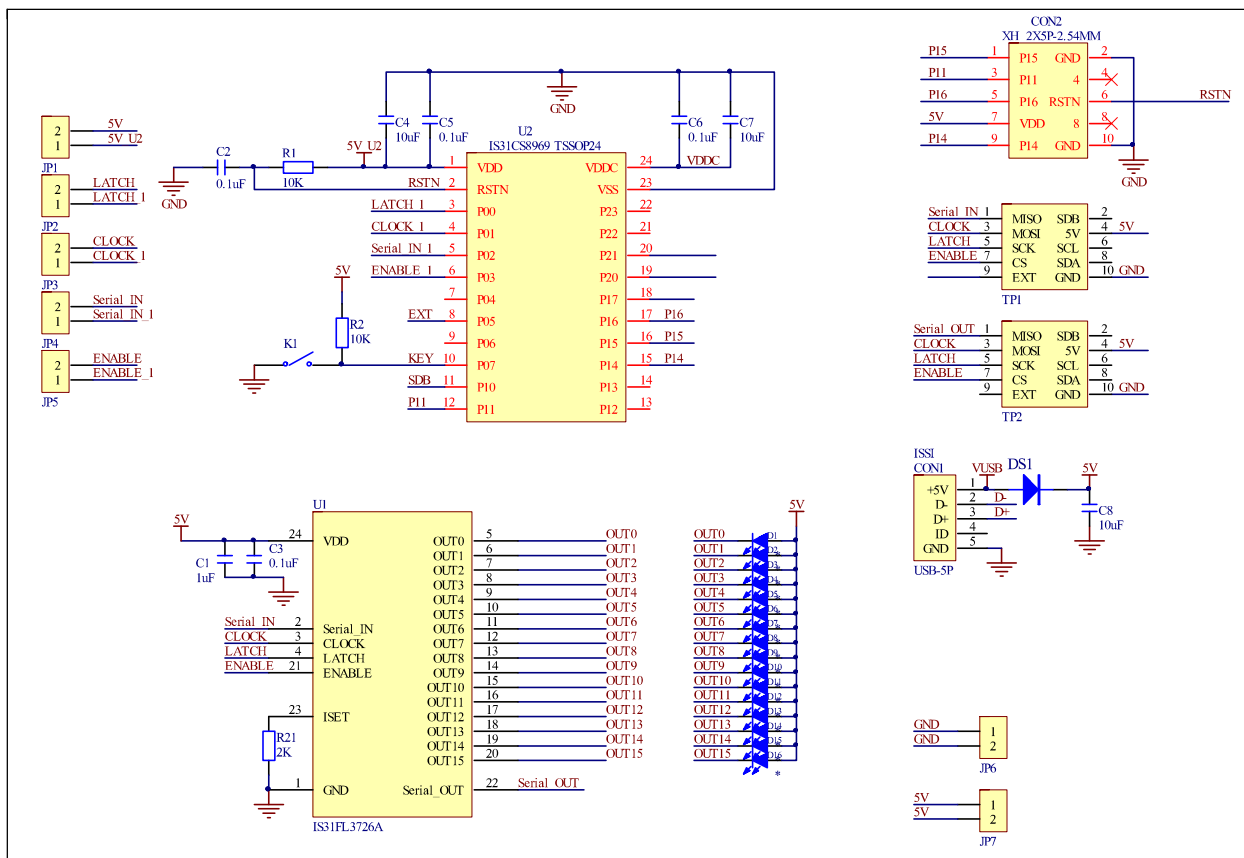

Figure 3: IS31FL3726A Application Schematic
*Bill of Materials, refer to Figure 3 above.*